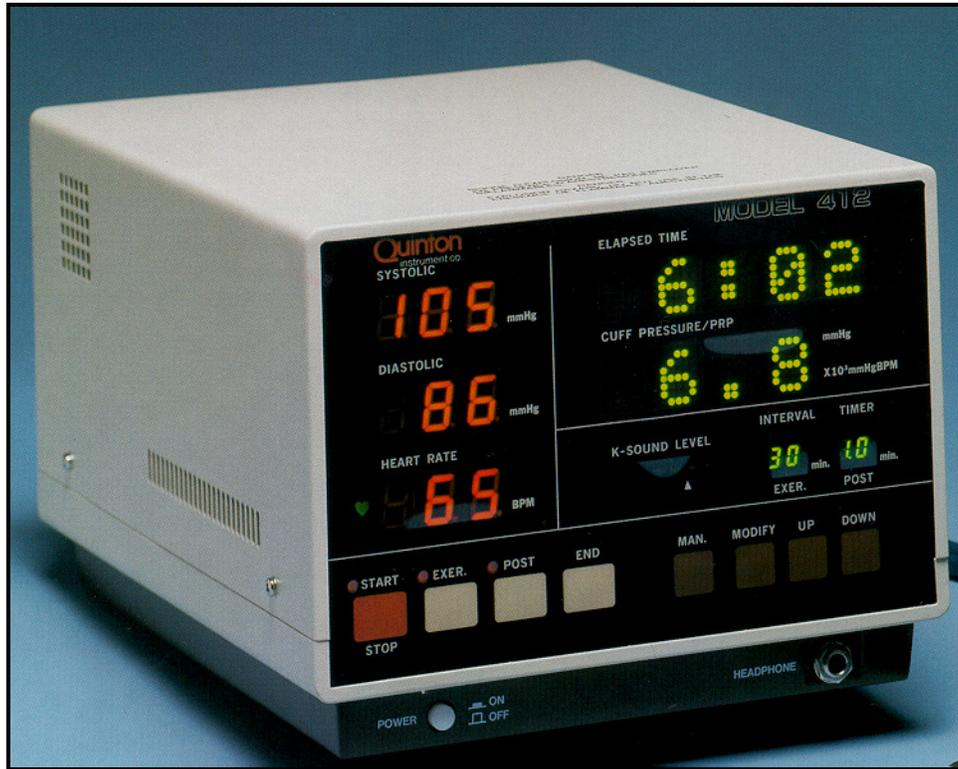

Figure 2-5. Colin STBP-780 Automatic Blood Pressure Monitor
The Colin STBP-780 is an automated electronic heart rate and blood pressure (BP) monitor capable of accurate readings at rest and during exercise. See Figure 2-5. The unit assesses heart rate via wires connected to four electrodes placed on the thorax and abdomen. Blood pressure is assessed during deflation of the cuff via two microphones in the cuff. The front display provides clear, easy to read measurements of heart rate, systolic and diastolic BP, elapsed time, and error messages. When turning the system on, a Self-Check is performed automatically. If an error is detected, see Section 2.9.2.